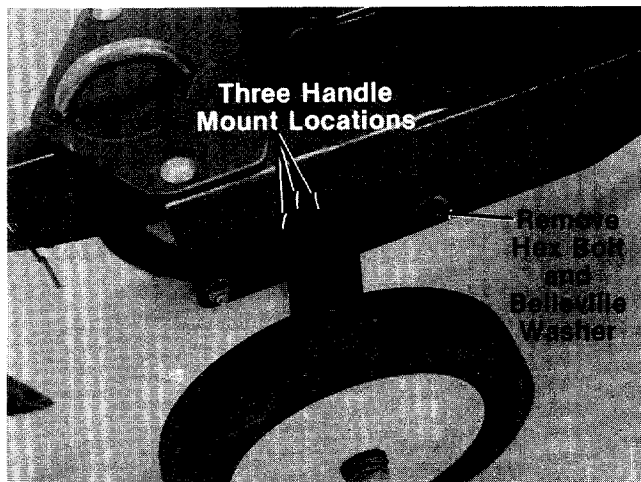

FIGURE 5.
1. Secure handle panel to handles by placing carriage bolts (P) through the lower holes in the handle panel and through the handles. Secure with lock washers (Q) and hex nuts (R), finger tight only.
2. Remove hex bolt and belleville washer from each side of frame as shown in figure 5.
5. Select height position for the handle by lining up one of the holes in the handle with desired hole in frame. See figure 5.